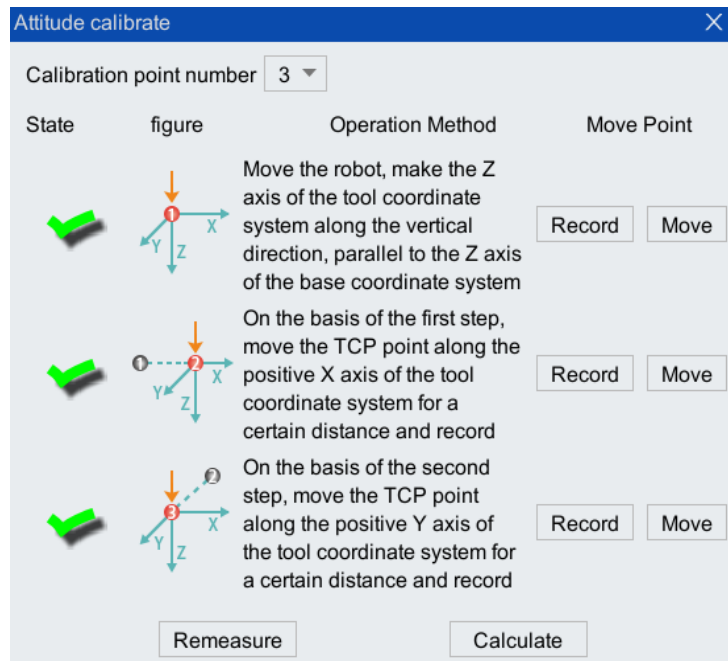

Figure 5-5 Successfully calibrated by three-point method
Step 5. (Optional) Follow the instructions on the interface to complete the <Record> of each point. When all the "✘" changes to "✔" (as shown in Figure 5-5), click <Calculate> to complete the calibration.